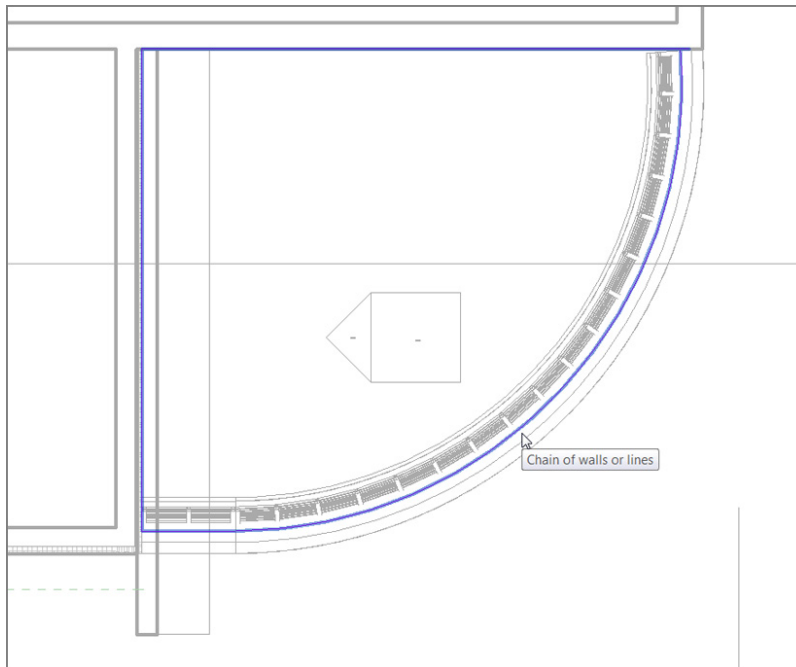

FIGURE 16.54: The roof footprint
10. Clean up any overlapping corners. Your sketch should look like Figure 16.54.